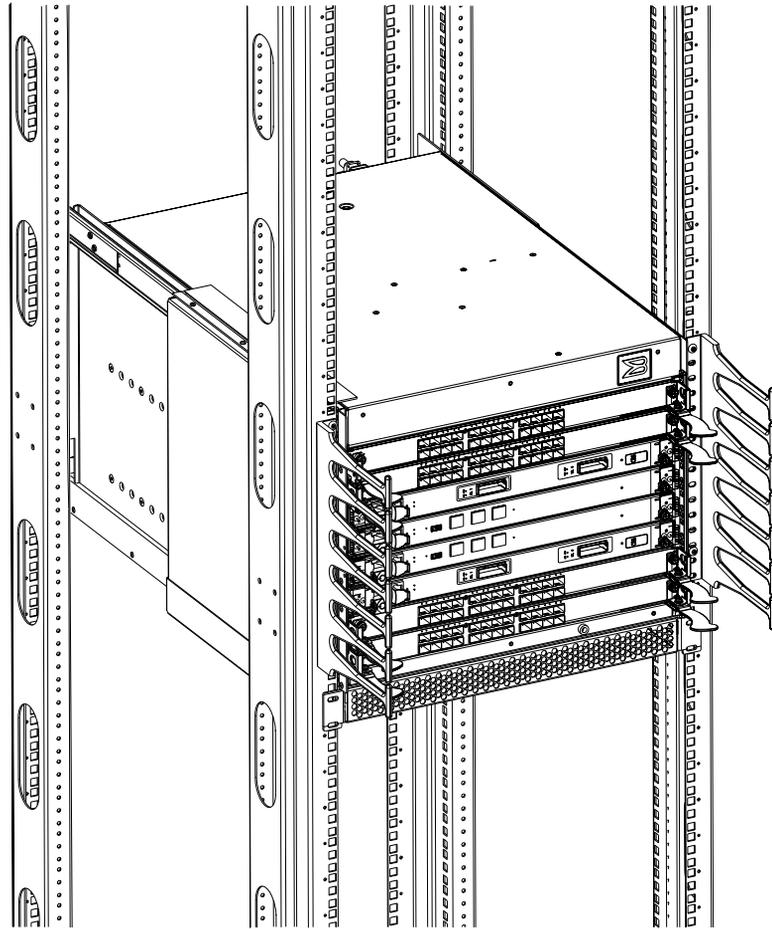

Figure 18 RRP: Vertical cable management finger assemblies
2. Unscrew and save the three (3) screws holding the finger assembly to the rack upright (Figure 18 on page 90). Support the assembly to prevent it from falling.